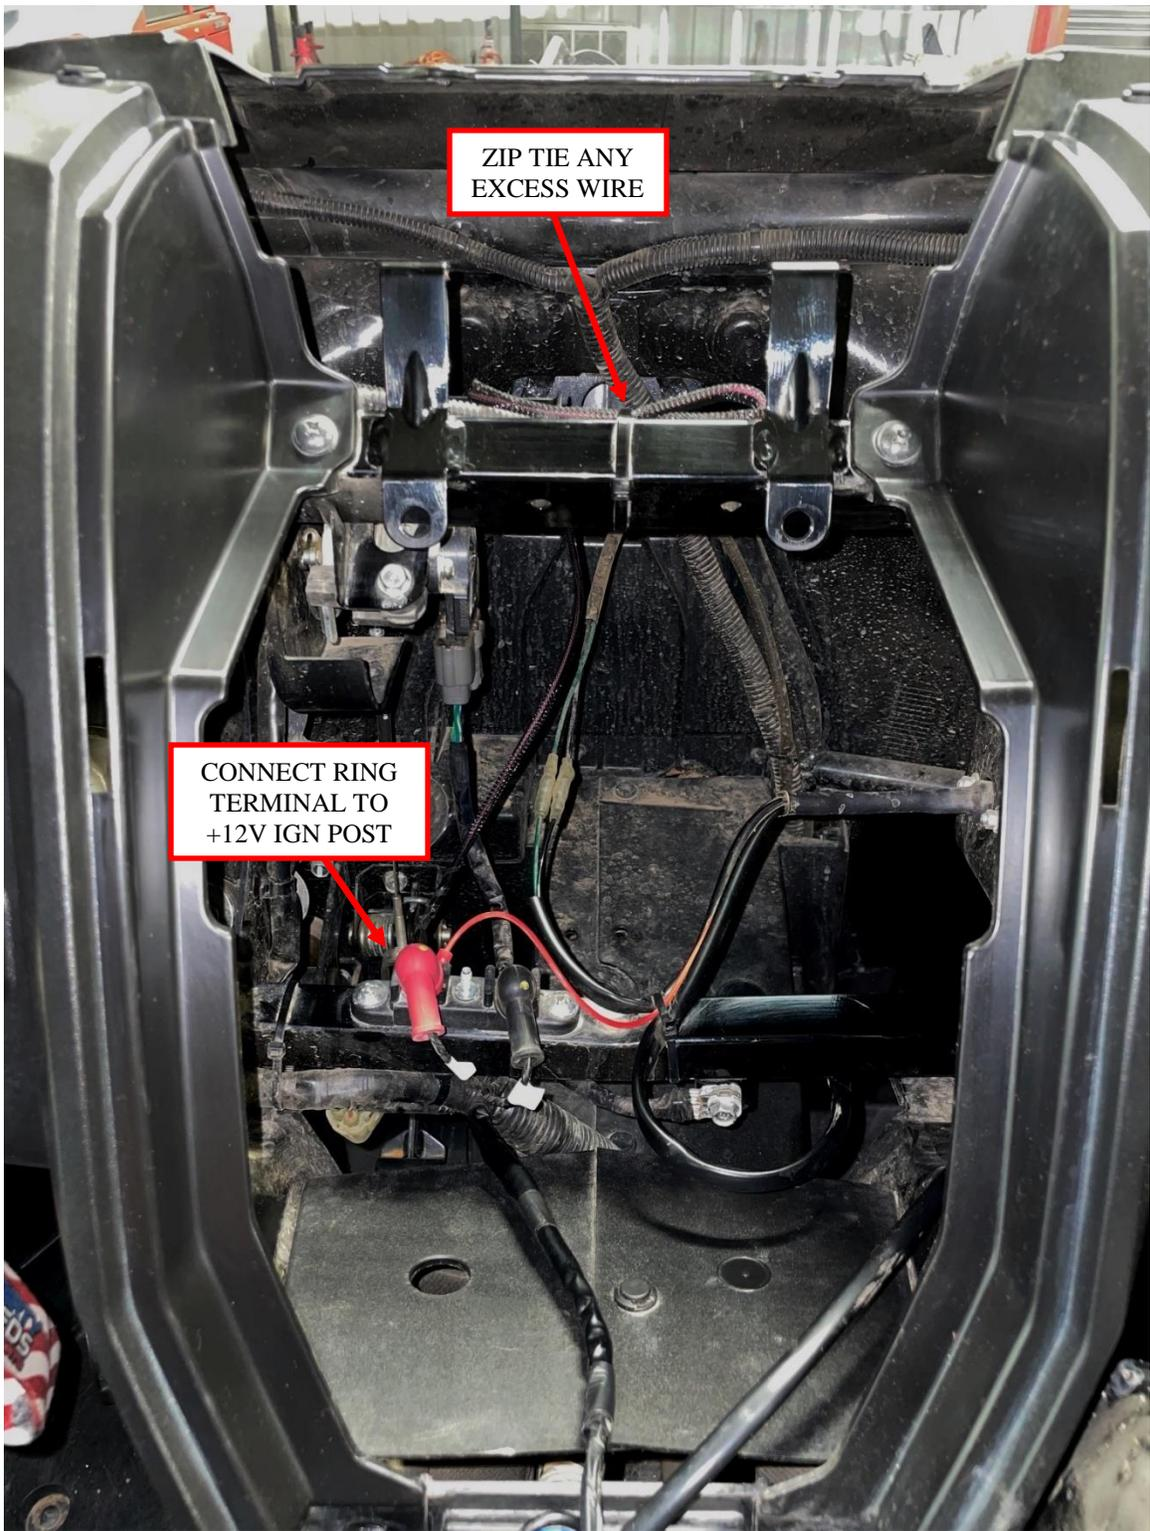

Figure 17: Connect the ignition ring terminal to the bus bar terminal.
14. Connect the ignition wire ring terminal to the driver side post with the red boot. See Figure 17. Reinstall the factory hardware and boot on top of the *Audio Shade* harness ignition ring terminal.